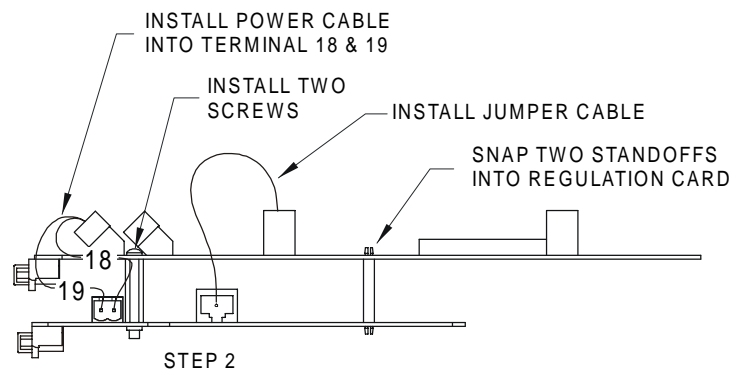

Figure 8.4 – Installing GEN250
- c. Snap the two plastic standoffs into the regulation card. (Figure 8.4.)
- a. Mount the regulator card with the GEN250 attached on the four standoffs with four screws. (See Figure 8.4.)